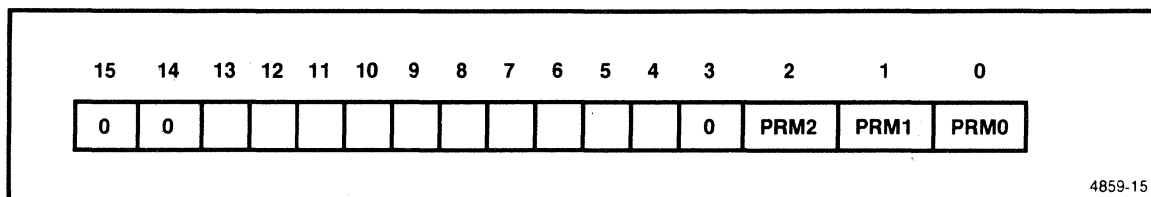

Figure 2-14. Priority Mask Register format.
Priority Mask Register. The Priority Mask Register is used to mask all interrupts below a specified interrupt priority level. The Priority Mask Register bit format is shown in Figure 2-14. The priority level specified by the lower three bits (PRM2–PRM0) in this register inhibits interrupts with priorities lower (a higher priority number) than that specified. For example, if priority level 4 is set into the lower three bits (100), the register masks all interrupts of priority levels 5 (101), 6 (110), and 7 (111). The lower three bits are set to priority level 7 (111) upon a reset, which unmask all interrupts.